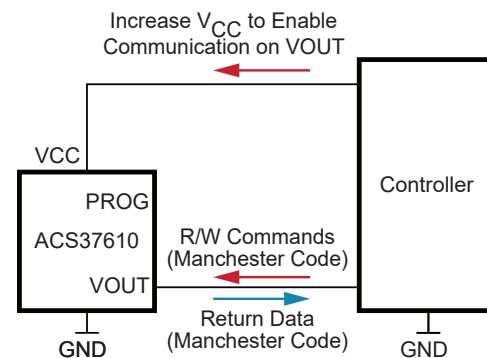

Figure 10: Programming Connection—Mode 1
**Mode 1, Programming on VOUT pin (see Figure 10):** To enable bidirectional programming on VOUT, voltage is raised on VCC (VOVDE) for at least tOVDE, followed by the access code on VOUT. If the COM\_LOCK bit is set (value = 1), bidirectional programming on VOUT is disabled. If the COM\_LOCK bit is not set (value = 0), there is no timeout limit to send the access code as long as VCC stays above VOVDE for at least tOVDE. To ensure a reset of the Manchester state machine occurs, the start of any Manchester command should begin by holding the output low for tBIT. If an incorrect access code is sent, VOUT remains in the typical analog mode (responds to magnetic stimulus) and the device remains locked for communication on VOUT until a power reset occurs.